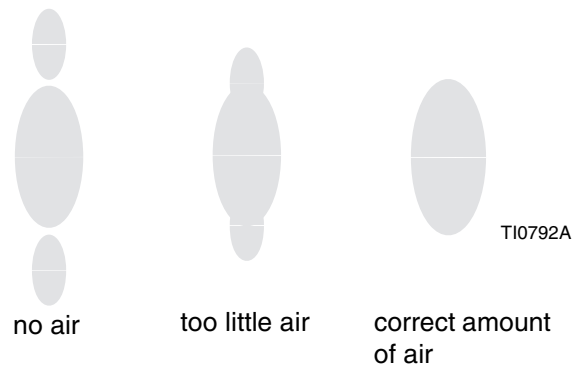

FIG. 14
- Set the atomizing air pressure at about 5 psi (3.5 kPa, 0.35 bar) when triggered. Check the spray pattern, then slowly increase the air pressure until the tails are completely atomized and pulled into the spray pattern. See FIG. 14. Seven to 10 psi (4.9 to 7.0 kPa, 0.49 to 0.7 bar) air pressure is typically enough to atomize the tails, especially for low viscosity materials. Setting the air pressure too high will cause material to build up on the air cap and decrease transfer efficiency. Do not exceed 100 psi (0.7 MPa, 7 bar) air pressure to the gun.